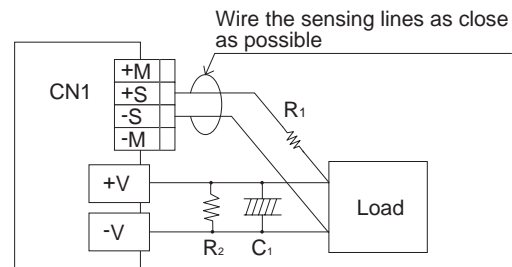

Fig.5.11 When using remote sensing function
- Please see Fig.5.11 if you use the remote sensing function.